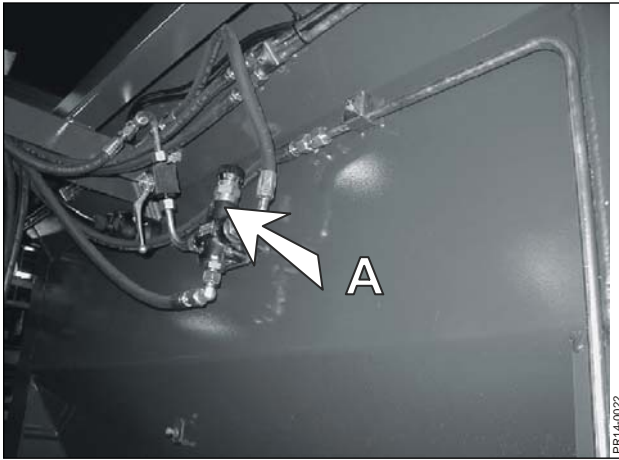

Fig. 5.1
Fig. 5.1 The speed of the conveyor chain, which together with the forward speed determines the spread quantity, it can be adjusted by means of a continuous adjusting valve. The adjusting valve (A) is a dividing valve, which has a simple scale adjustment, determining the flow to the hydraulic motor.